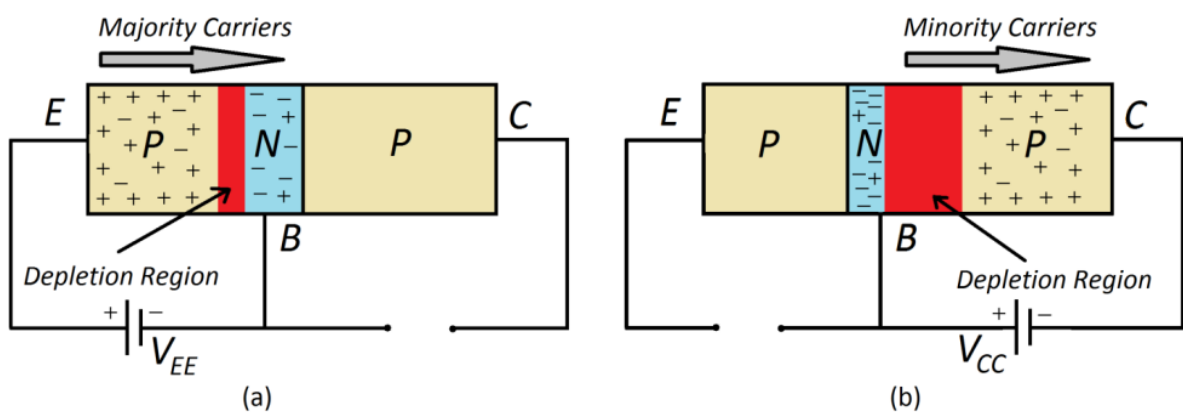
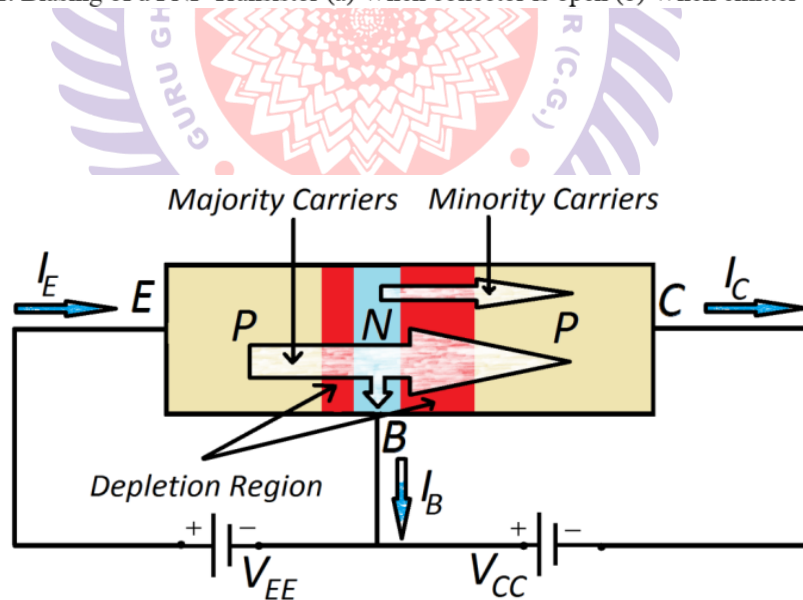

Figure 2. Biasing of a PNP Transistor (a) When collector is open (b) When emitter is open
Figure 3. Majority and minority carrier flow of a PNP transistor
- **TRANSISTOR OPERATION:-** The basic operation of the transistor will now be described using the pnp transistor as shown in Fig. 2.b. The operation of the npn transistor is exactly the same if the roles played by the electron and hole are interchanged. In Fig. 2.a the pnp transistor has been redrawn without the base-to-collector bias. The depletion region has been reduced in width due to the applied bias, resulting in a heavy flow of majority carriers from the p- to the n-type material. Let us now remove the base-to-emitter bias of the pnp transistor as shown in Fig. 2.b. The flow of majority carriers is zero, resulting in only a minority-carrier flow, as indicated in Fig. 2.b. Therefore, one p-n junction of a transistor is reverse biased, while the other is forward biased. Applying Kirchhoff's current law to the transistor of Fig. 3 as if it were a single node, we obtain
and find that the emitter current is the sum of the collector and base currents. The collector current, however, is comprised of two components—the majority and minority carriers as indicated in Fig. 3. The minority current component is called the *leakage current* and is given the symbol I_{CO} (I_C current with emitter terminal Open). The collector current, therefore, is determined in total by Eq. (1.2).
- **Common Emitter Configuration:-** The most frequently encountered transistor configuration appears in Fig. 6 for the *pnp* and *nnp* transistors. It is called the *common-emitter configuration* since the emitter is common or reference to both the input and output terminals (in this case common to both the base and collector terminals). Two sets of characteristics are again necessary to describe fully the behavior of the common-emitter configuration: one for the *input* or *base-emitter* circuit and one for the *output* or *collector-emitter* circuit. Both are shown in Fig. 2(a) and (b).